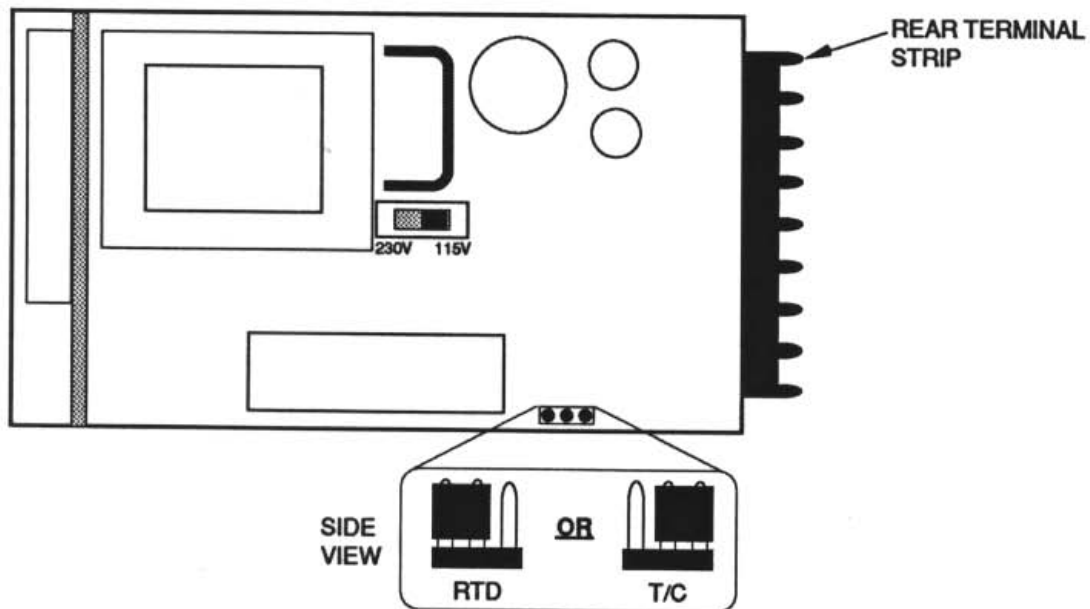

Figure 3. Sensor Input Selection Jumper Location
A removable jumper located on the right and to the rear of the Main PCB is used to set the sensor input type. Figure 3 shows the location of the jumper set and the connections required for each. Of the three pins in this jumper set, the center pin is common. Either of the outside pins jumpered to the center pin selects the sensor type indicated by the markings on the PCB.
4. Set RTD or T/C jumper as required. See figure 3.